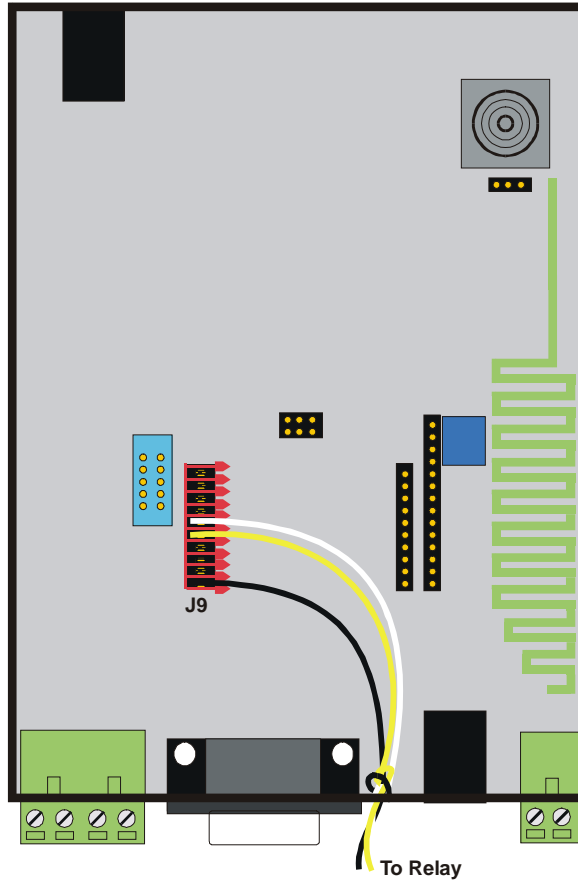

Figure 20 Plugging in the relay wires
- Step 4:** Place the terminal block on the J9 header (Figure 20) Run the wires out the provided hole in the Receiver case. The wires have a knot tied to provide strain relief.